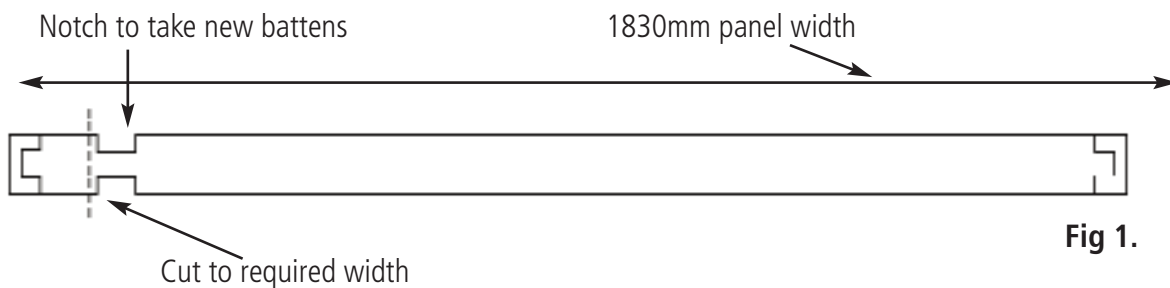

Fig 1.
- 2) Cut 2 notches (17mm x 40mm) in top/bottom rails, to receive the additional battens, as shown below (Fig1).